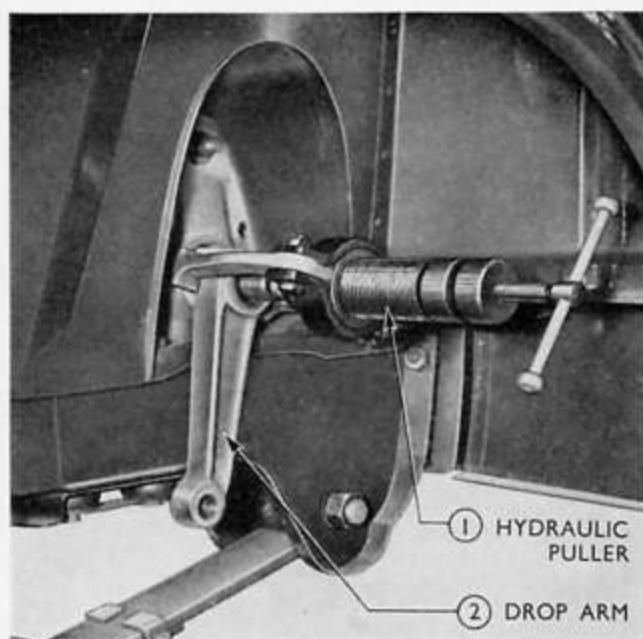

Fig. 26
8. Remove the nut and the spring washer retaining the drop arm to the sector shaft and pull the arm off, using the 252 hydraulic puller (see Fig. 26).
7. From under the wheel arch, remove the nut and spring washer retaining the drop arm to the sector shaft and, using the special tool, No. 252, pull the arm off the shaft (see Fig. 26).